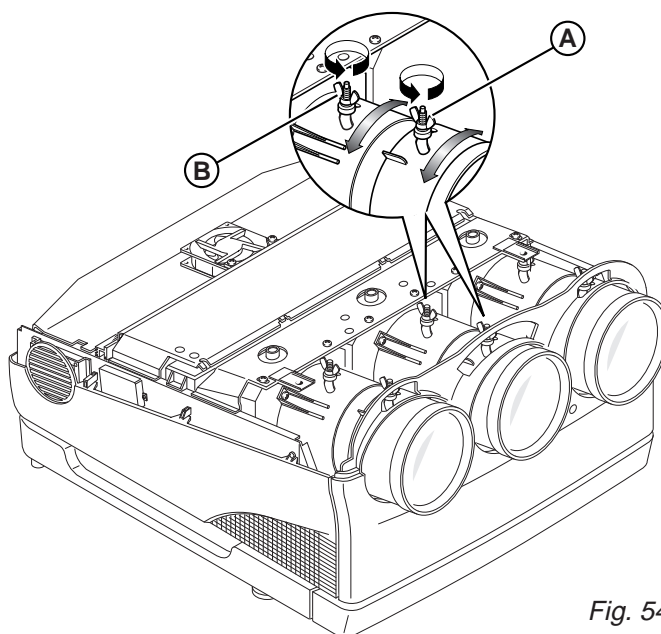

Fig. 54
4. Loosen the wing screw (**B**) Fig. 54 of the green lens, turn the lens assembly either to the right or left to adjust the focus of the picture in the middle of the screen and then tighten the screw. (**B**).